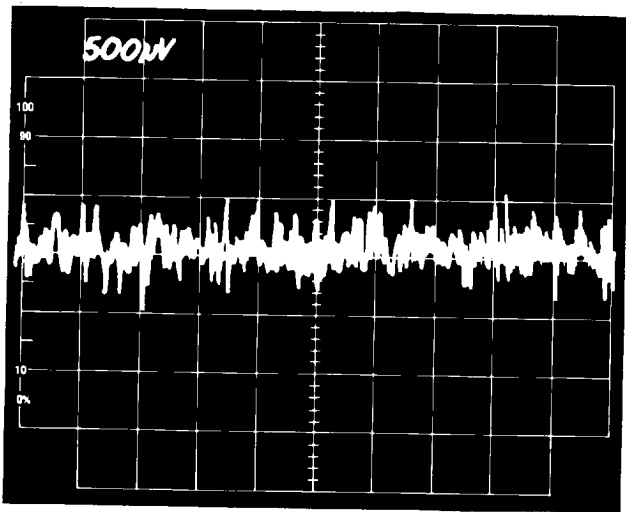

Figure 9. Voltage Noise, 0.1Hz to 10Hz, G = 1000
**Gain Nonlinearity and Noise:** Gain Nonlinearity is specified as a percent of full-scale output, and for the 1B32 it is ±0.005% max over the full span. The chopper design also offers exceptional low-noise performance, with typical input noise of 1μV p-p in the 0.1Hz to 10Hz bandwidth (Figure 9).